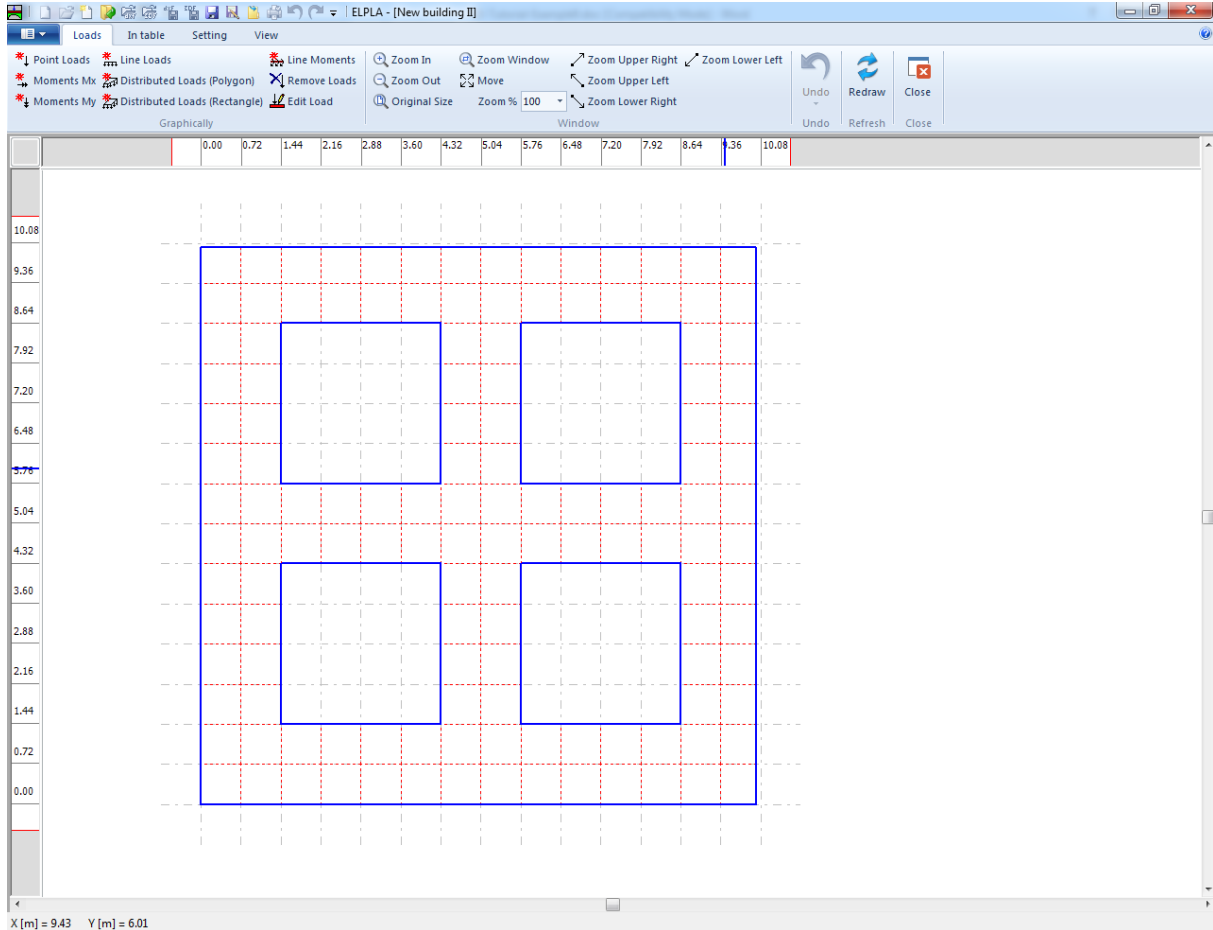
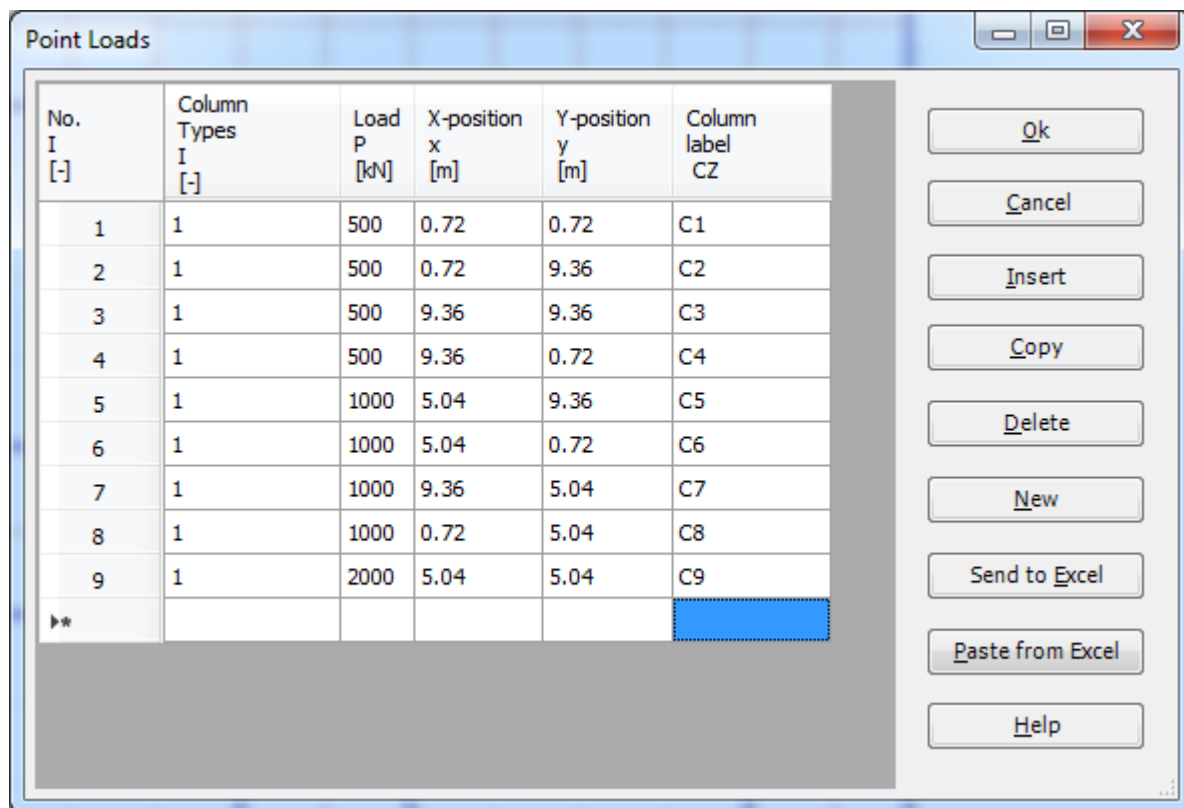

Figure 9.26 "Loads" Window
Figure 9.27 "Point Loads" list box
To define the loads, choose "Loads" command from "Data" Tab The following Window in Figure 9.26 appears.
- Choose "Point Loads" command from "In Table" menu in the window of Figure 9.26. The following list box in Figure 9.27 appears
- Enter the external point loads P [kN] and their corresponding coordinates (x, y) in the list box of Figure 9.27. This is done by typing the value in the corresponding cell and then press "Enter" key. The coordinates of the point load are related to the lower-left corner of the foundation (local coordinates)
- Choose "Save " command from "File" menu in Figure 9.26 to save the load data
- Choose "Close" command from "File" menu in Figure 9.26 to close the "Loads" Window and return to *ELPLA* main window